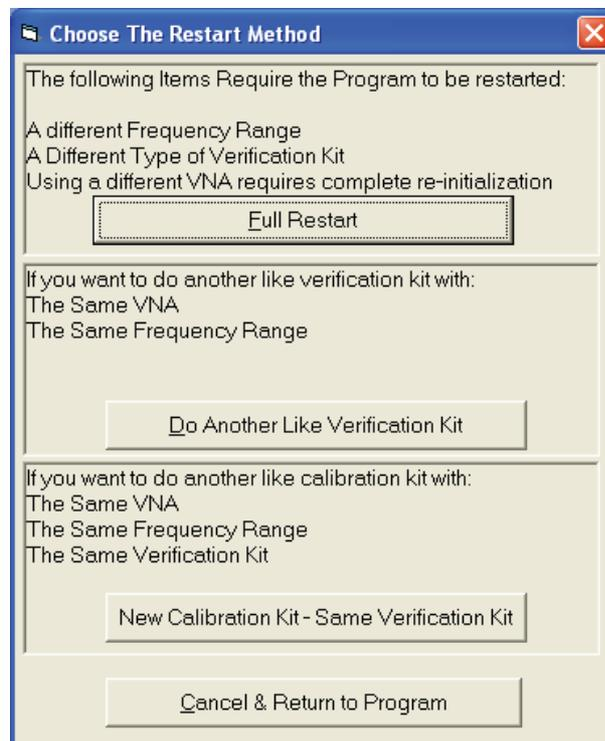

Figure 6-49. Choose The Restart Method Dialog
3. The Choose The Restart Method dialog box appears as shown below in Figure 6-49.